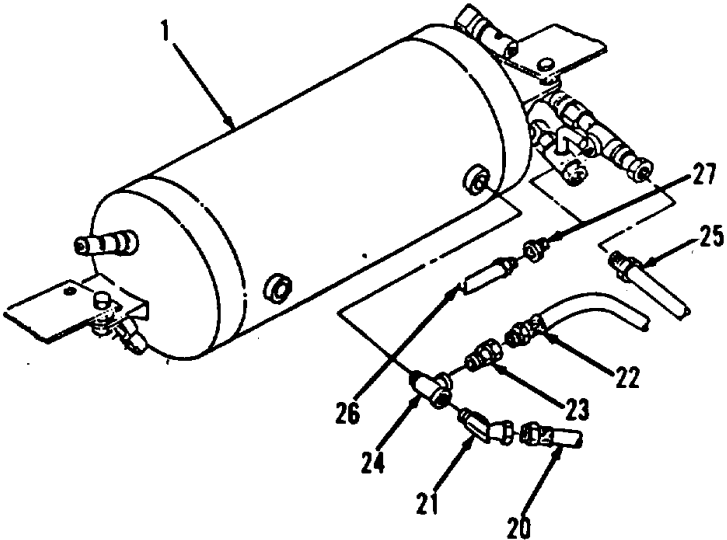
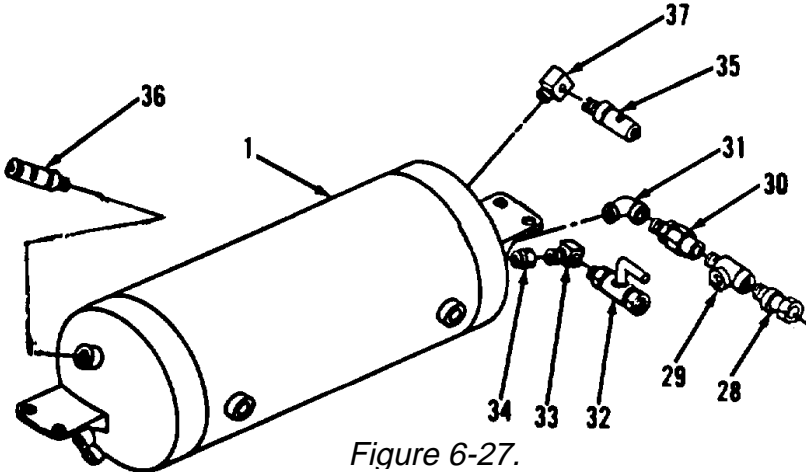

Figure 6-26;
Figure 6-27.
- 11. Disconnect hose assembly (20, Figure 6-26).
- 12. Remove elbow (21).
- 13. Disconnect hose assembly (22).
- 14. Remove connector (23) and tee (24) from reservoir (1).
- 15. Disconnect hose assembly (25).
- 16. Remove hose assembly (26).
- 17. Remove bushing (27).
- 18. Remove connector (28), tee (29), valve (30) and elbow (31, Figure 6-27).
- 19. Remove drain cock (32), fitting (33) and bushing (34).
- 20. Remove valves (35 and 36) and fitting (37) from reservoir (1).